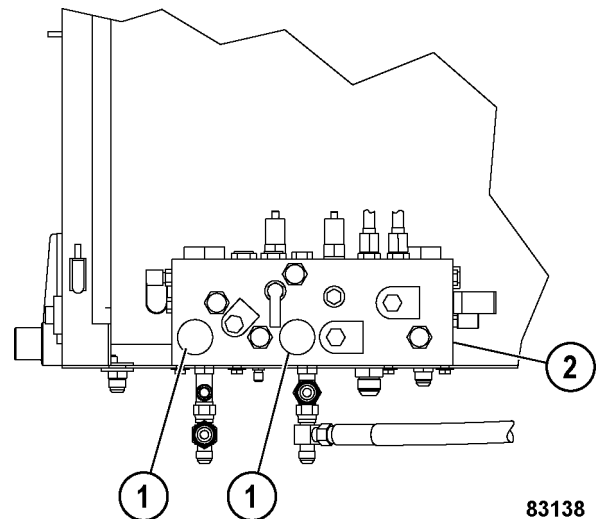

FIGURE 50-1. BRAKE MANIFOLD
2. Open brake accumulator bleed down valves (1, Figure 50-1) on brake manifold (2) in the hydraulic brake cabinet to depressurize the brake accumulators.